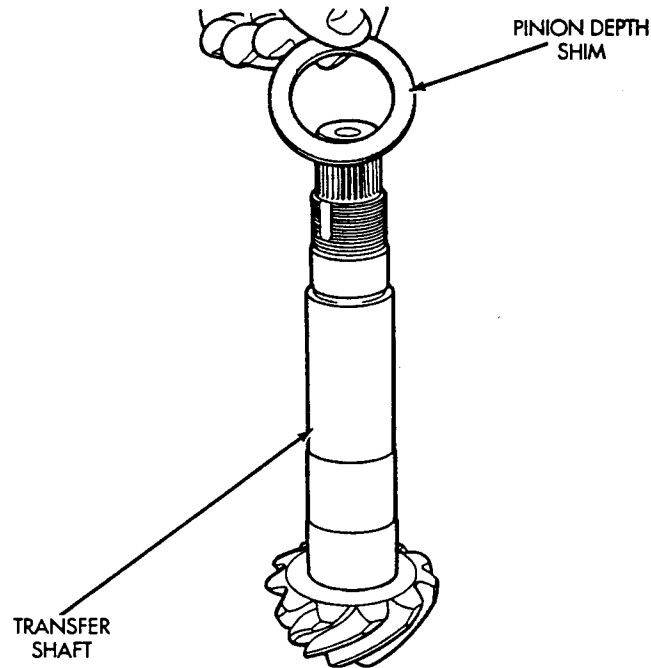

Fig. 12 Shim Installation
(12) Remove Dial indicator, gauge disc and centering block from transaxle.
(13) Install shim selected in step 9 of this procedure onto the transfer shaft (Fig. 12).